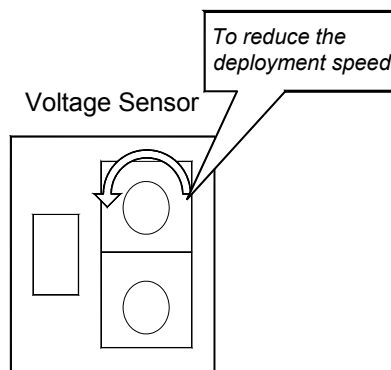

FIGURE 3-5: REDUCING DEPLOYMENT SPEED
Refer to Figure 3-5. Two voltage sensors (cream colored boxes that have two control knobs) are located near the center of the ramp controller. The speed of the ramp deployment can be adjusted by turning the knobs that are located on the top surface of these voltage sensors.
- c. Refer to **Figure 3-5**. When the deployment speed is too fast, adjust deployment speed: